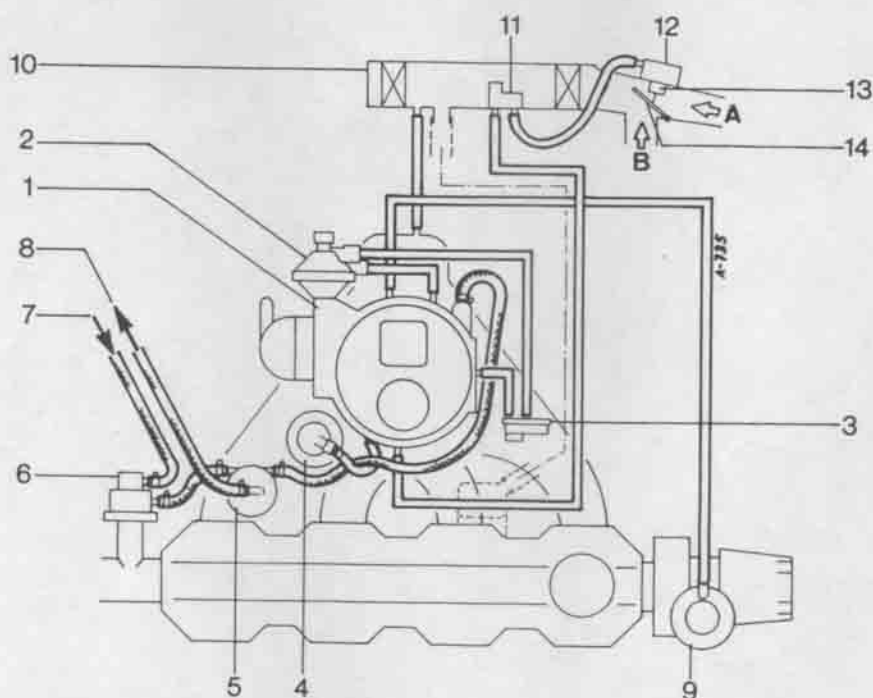

Figure 16
8. INTAKE AIR PREHEATING (figure 16)
9. CONNECTION DIAGRAM, depression lines and fuel lines (figure 16)